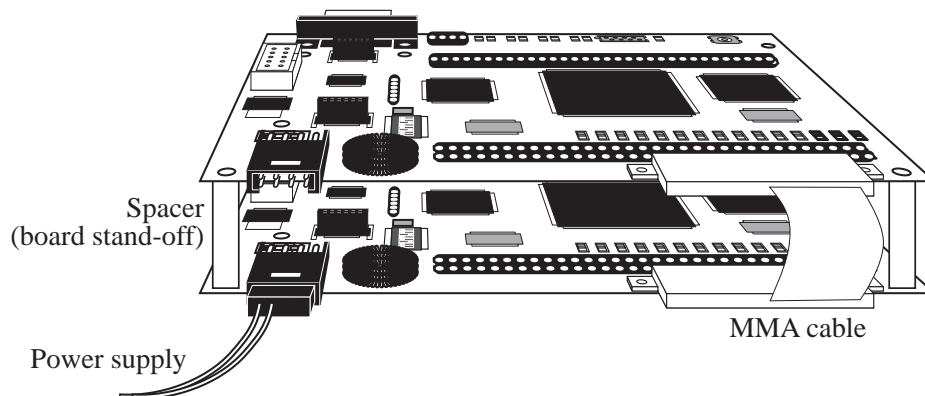

Figure 13: Connections to stack several Kameleon boards.
- Connect the MMA cable. This cable need to have ONLY the first 26 wires (a1 to a13 and b1 to b13) connected, as shown in figure 13.